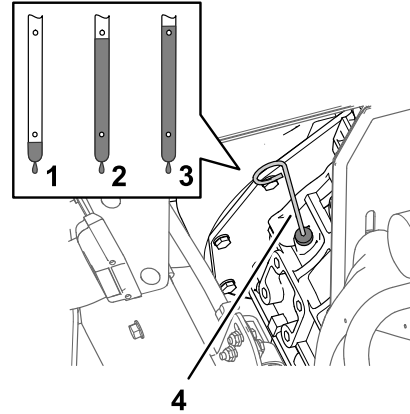

Figure 74
2. Remove the dipstick, located under the passenger seat, and wipe it with a clean rag (Figure 74).